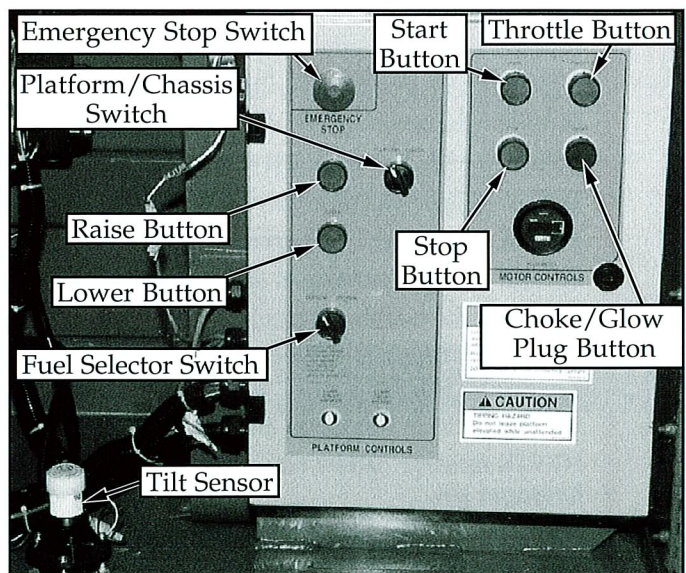

Figure 1: Chassis, Left Side
9. Place chassis and platform emergency stop switches in the ON position (Figure 1 & 2) by pulling the buttons out.
10. Verify platform/chassis switch is on **PLATFORM** (Figure 1).
10. Push the throttle button in. Push chassis raise button to elevate platform while pushing the tilt sensor (Figure 1) off of level. The platform should only partially elevate and the tilt alarm should sound. If the platform continues to elevate and/or there is no alarm **STOP** and remove the machine from service until it is repaired.
1. With engine running turn the fuel selector switch (Figure 1) to the center position.